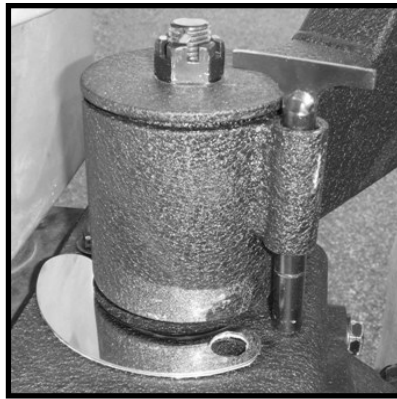

Figure 12.
11. Open the tire carrier, and place the rub strip next to the spindle bracket. Leaving the tape on, line up the hole in the spindle bracket with the hole in the rub strip (Figure 12). Once test fitted, peel off protective tape film, and press onto spindle bracket.